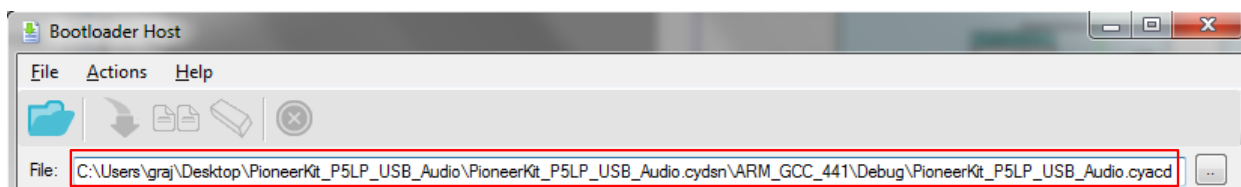

Figure 8: Target File location in Bootloader Host
- Point the File location to the *PioneerKit_P5LP_USB_Audio.cyacd* file as shown in Figure 8. The file is present in <Install Directory>\ *PioneerKit_P5LP_USB_Audio*\ *PioneerKit_P5LP_USB_Audio.cydsn*\ *ARM_GCC_441*\ *Debug*\ *PioneerKit_P5LP_USB_Audio.cyacd*